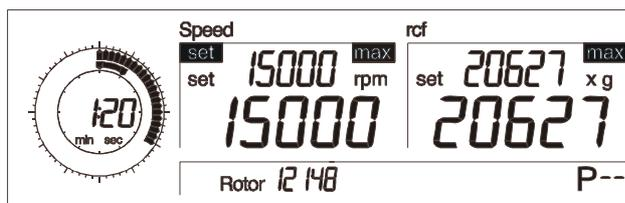

Fig. 5.13: Setting the speed
- Turn the left rotary knob until “set” appears in front of the parameter “Speed” on the display (Fig. 5.13).